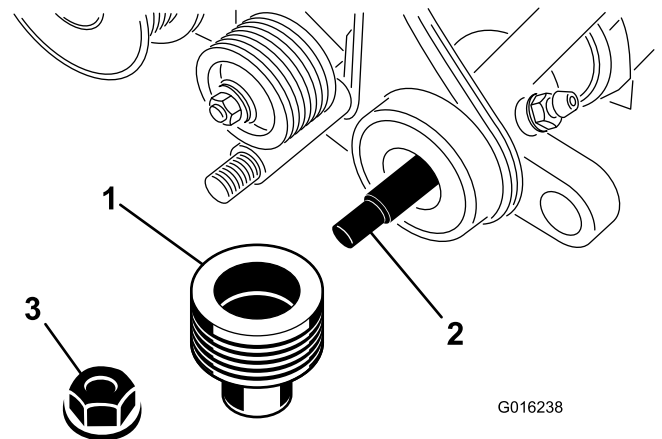

Figure 31
6. Remove the flange locknut securing the driven pulley to the end of the groomer shaft (Figure 31). Remove the pulley.